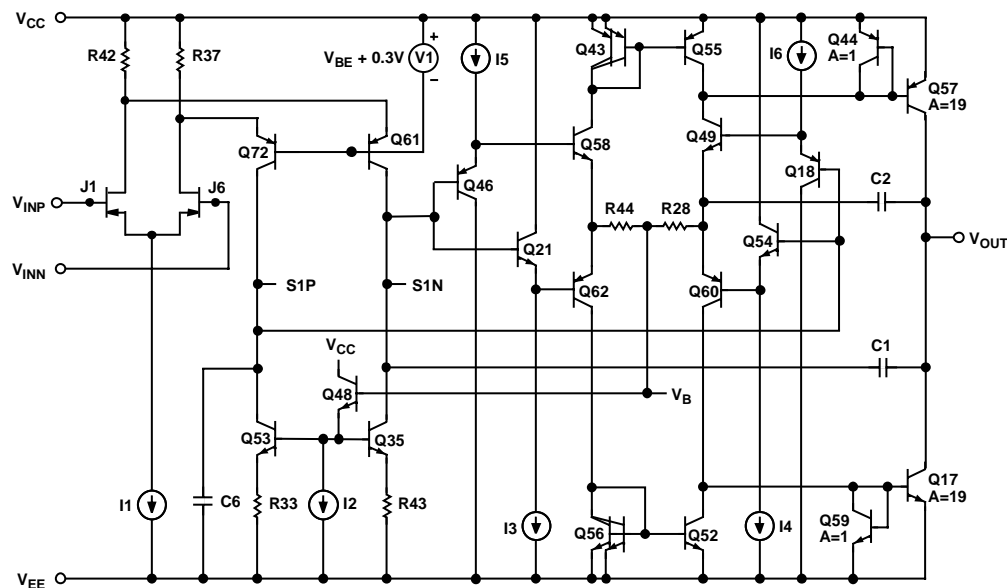

Figure 36. Simplified Schematic
The AD823 is fabricated on the Analog Devices proprietary complementary bipolar (CB) process that enables the construction of PNP and NPN transistors with similar f_T s in the 600 MHz to 800 MHz region. In addition, the process also features N-Channel JFETs, which are used in the input stage of the AD823. These process features allow the construction of high frequency, low distortion op amps with pico-ampere input currents. This design uses a differential output input stage to maximize bandwidth and headroom (see Figure 36). The smaller signal swings required on the S1P, S1N outputs reduce the effect of the nonlinear currents due to junction capacitances and improve the distortion performance. With this design harmonic distortion of better than -91 dB @ 20 kHz into $600\ \Omega$ with $V_{OUT} = 4$ V p-p on a single 5 V supply is achieved. The complementary common emitter design of the output stage provides excellent load drive without the need for emitter followers, thereby improving the output range of the device considerably with respect to conventional op amps. The AD823 can drive 20 mA with the outputs within 0.6 V of the supply rails. The AD823 also offers outstanding precision for a high speed op amp. Input offset voltages of 1 mV maximum and offset drift of $2\ \mu\text{V}/^\circ\text{C}$ are achieved through the use of the Analog Devices advanced thin-film trimming techniques.